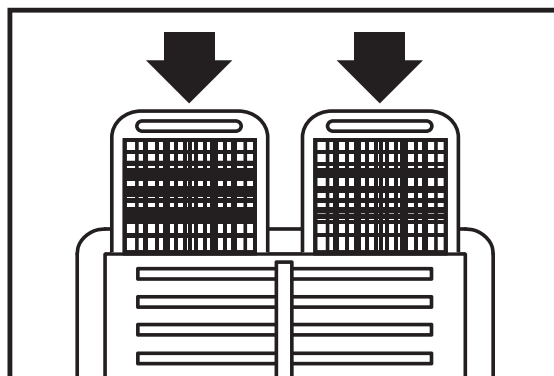

Fig. 16
- ▶ **5.2.4.** Place the filter back into its housing (Fig. 16).